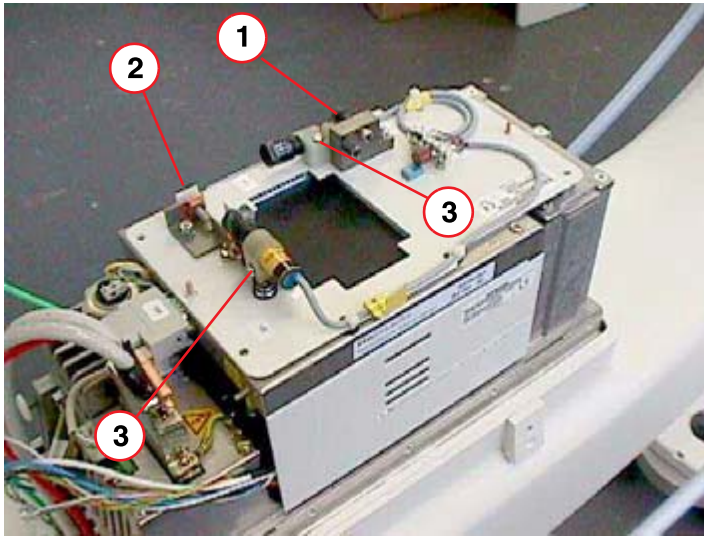

Fig. 1: Excentrics and screws
- Set the excentrics (1/Fig. 1 / p. 9) and (2/Fig. 1 / p. 9) to the "zero position".
- Loosen the screws (3/Fig. 1 / p. 9) until the laser diodes can be turned in their holders.
- Retighten the screws (3/Fig. 1 / p. 9).